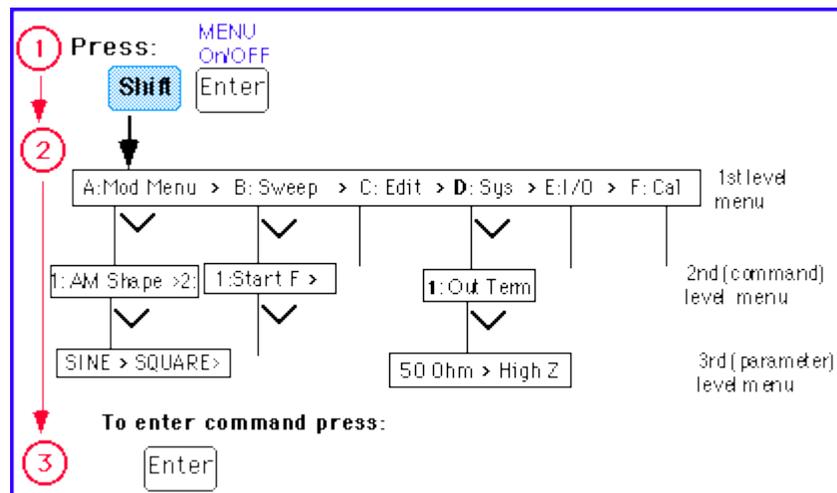

Figure 10: Menu organization
The menu is organized in a top down tree structure as shown in Figure 10. You move down the menu tree using the '^' or 'v' keys, and move within a level using the '>' and '<' keys. The top level lets you select the main functions, the 2nd level is the command level, and the 3rd level is the parameter level.
10. Press 'SHIFT' and 'LEVEL' key to set the modulation depth. The modulation depth is between 0 and 120%. (Please see Figure 10 for the definition).